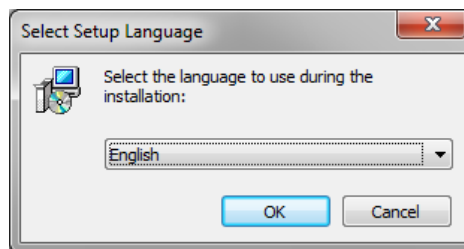

Fig. 2.1. Choice of installation language
5. Select language for installation procedure (fig. 2.1).